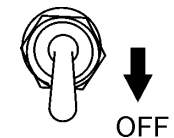

Figure 24. Operation Switch (OFF)
5. To shut-down the engine, place the generator's operation switch (Figure 24) in the **OFF** position.
8. Place operation switch (Figure 24) in the **OFF** position